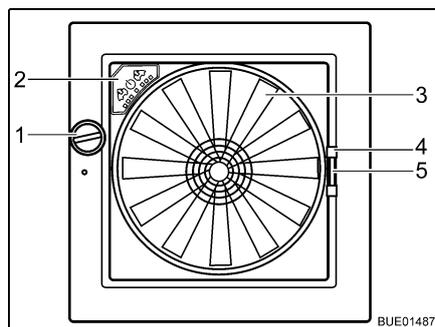

Fig. 50 Omni-Vent skylight
- Turn the knob (Fig. 50,1) until the desired opening angle is reached.
- Turn the knob (Fig. 50,1) until the skylight is fully closed.
- Using the handle (Fig. 50,4) pull the insect screen across to the other side of the frame.
- Press together the handle (Fig. 50,5) of the shade.
Fan If the skylight is open, the interior can be vented and aerated with the 6-speed fan (Fig. 50,3). The fan is operated via the operating panel (Fig. 50,2).